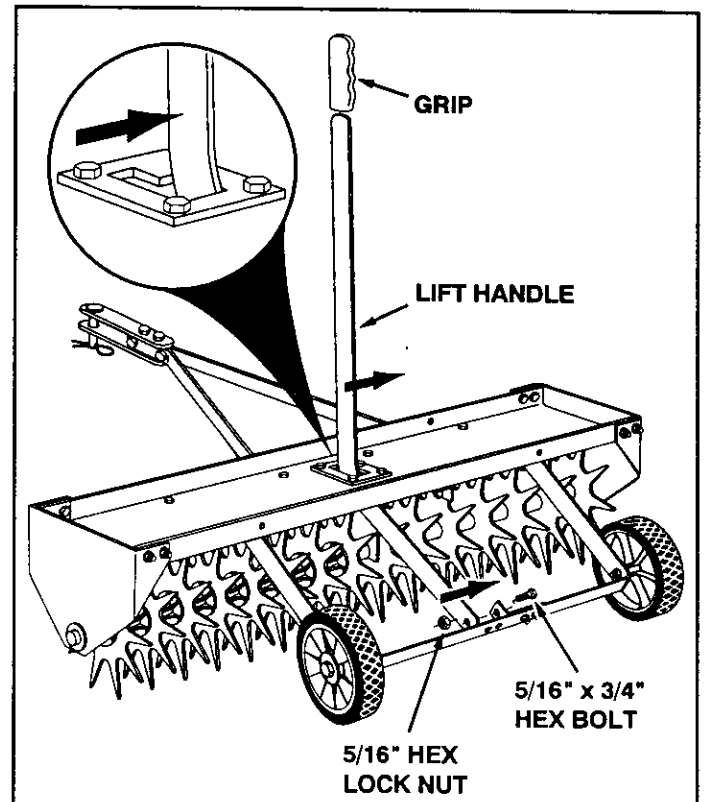

FIGURE 9 REAR VIEW
- Assemble the lift handle through the tray and attach it to the hitch arm mount bracket assembled to the axle bracket. Use a 5/16" x 3/4" hex bolt and a 5/16" hex lock nut. **Tighten.** See figure 9.
- Position the hitch arm mount bracket so that there is side tension on the lift handle when it is locked in the up position. **Tighten** the nuts. See figure 9.
- Assemble the grip onto the end of the lift handle. See figure 9.